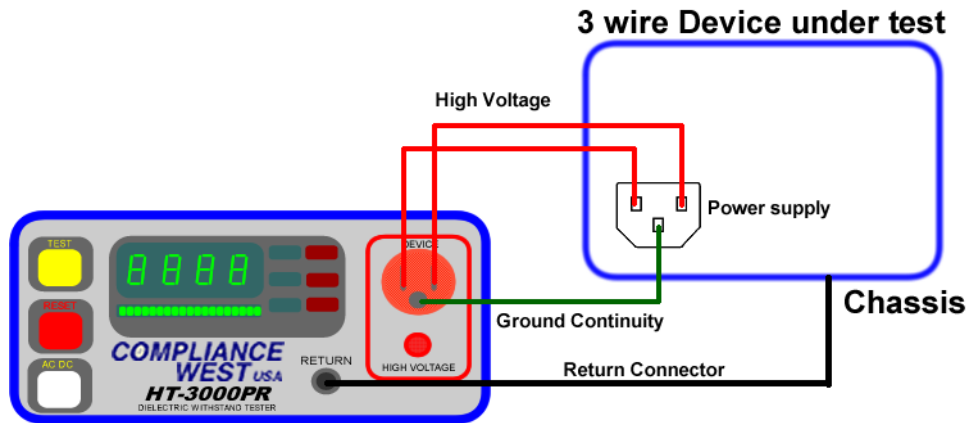

Figure 5. Testing a Three Wire Power Cord Device.
4. Plug the power supply cord of the device being tested into the **Device** receptacle on the front panel of the HT-PR unit. See figure 5 for detailed connections.